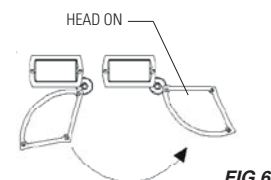

FIG.6
1. Adjust head on assembly at the desired angle. (Fig.6)